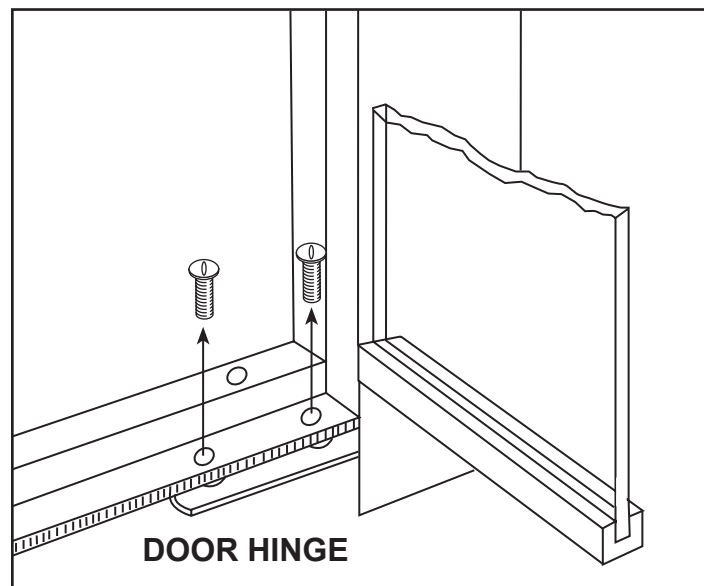

Figure 9
9. Removing the door panels for cleaning or replacement: Begin by opening the door panels. Remove the door panel hinge screws from the top and bottom hinges as shown in Figure 9. Remove the door panel(s).